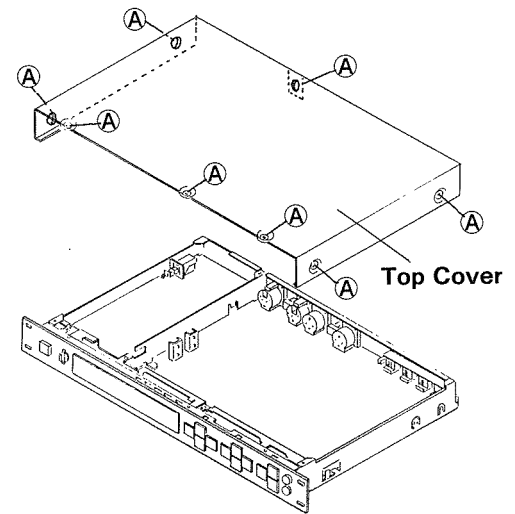

Fig. 1
1. Removal of Top Cover (Fig. 1)